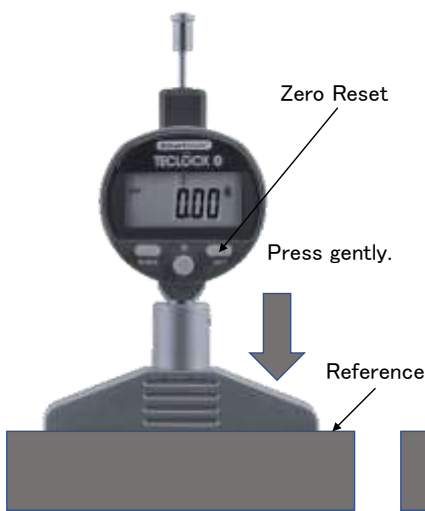

Figure.1: ZeroReset
(1) Setting zero point
- ① As shown in the Figure.1, bring the base surface into firm contact with the plane being the reference surface of measurement.
- ② Short press **SET** button, then 「Zero」displayed and reset.(Figure.1)